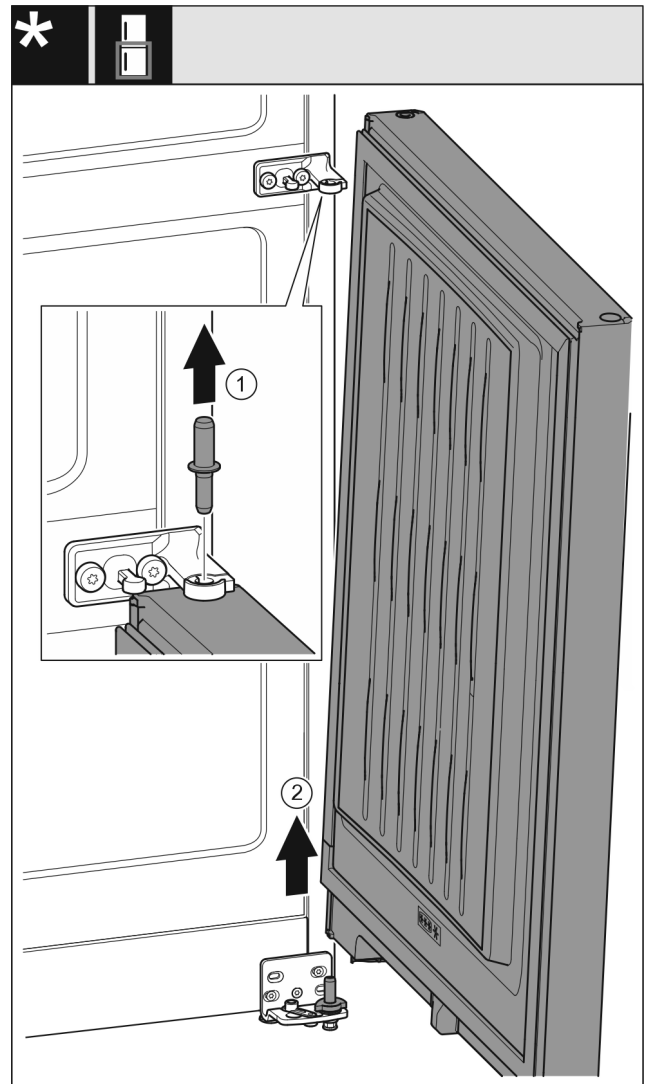

Fig. 9
- ▶ Pull out the bolt Fig. 9 (1) upwards.
- ▶ Swing out the door Fig. 9 (2), pull it upwards and set it aside.